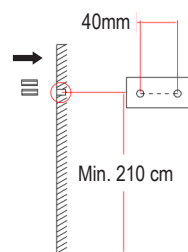

Fig. 1
- Mark the mounting holes on the wall (Fig. 1).